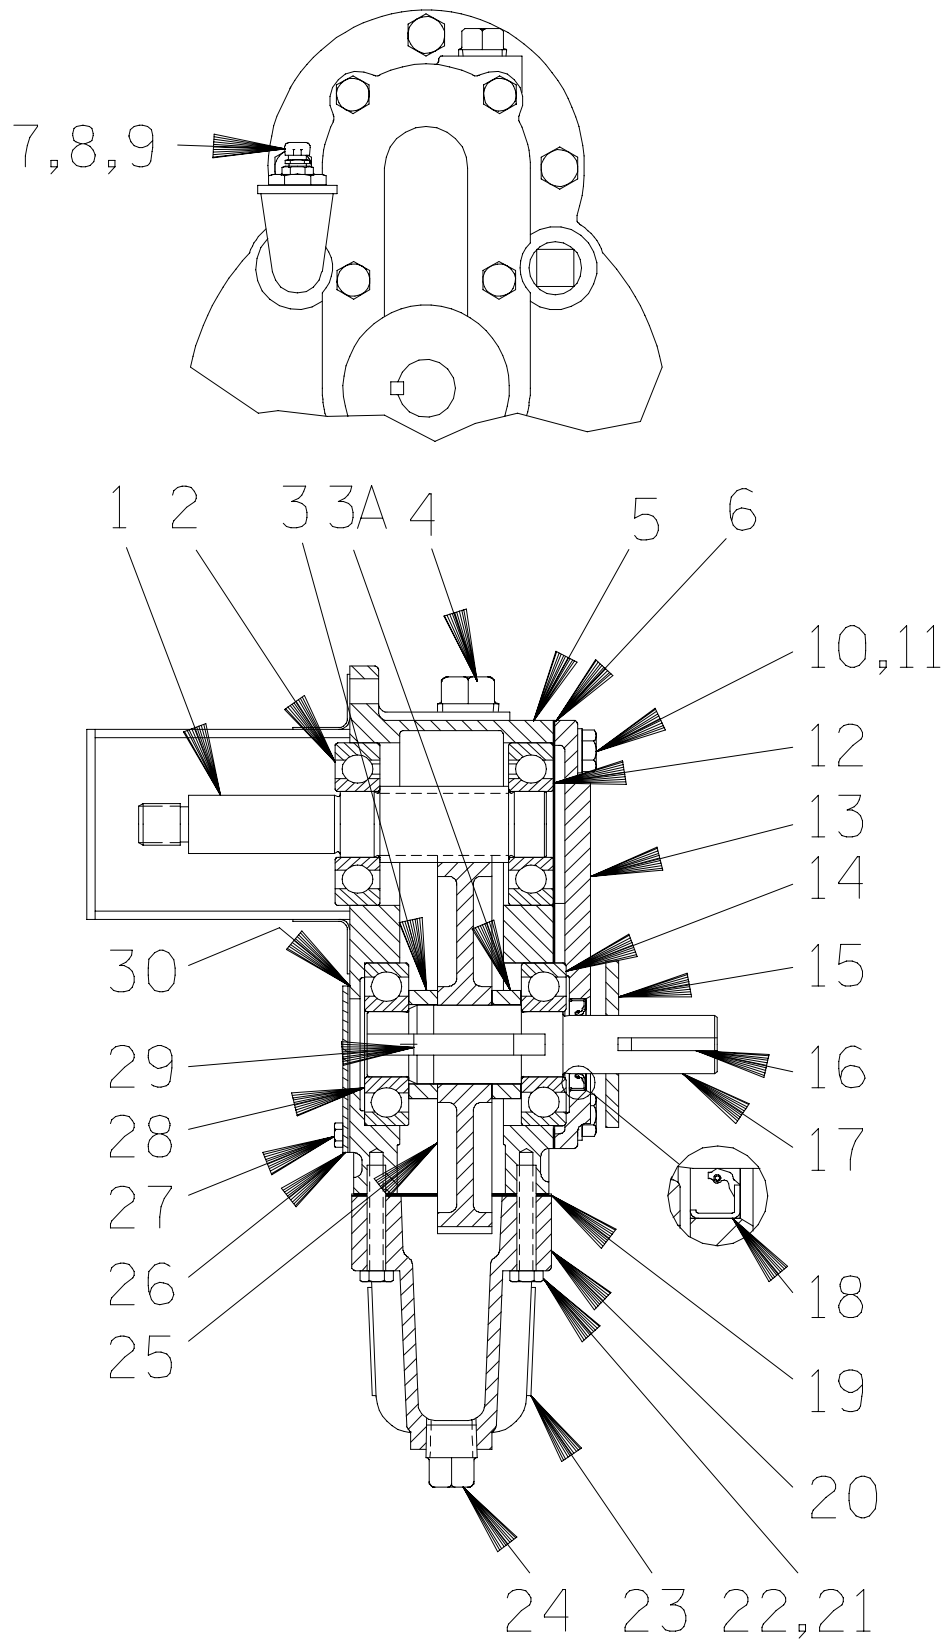
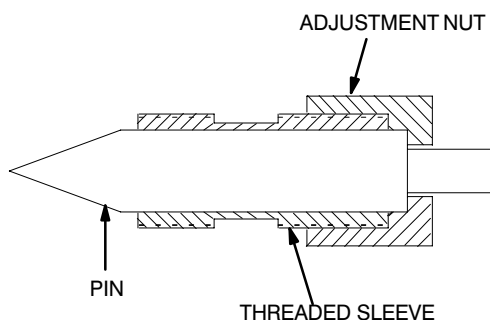

Figure 2. 44161-020 Gear Box Assembly
Figure 3. 48781-002 Gear Jam Tool
To remove the impeller, see Figure 2 and remove one of the pipe plugs (4) located in the gearbox. Screw the threaded sleeve on the gear jam tool (P/N 48781-002, Figure 3) into the pipe plug hole. Slide the pin through the sleeve until the beveled end of the pin engages the teeth of the drive gear (25). Screw the adjustment nut onto the sleeve until the pin firmly engages the teeth of the drive gear and jams rotation. Check to ensure that the pinion shaft (1) will not turn.
See Figure 2 and remove the drive shaft key (16) and slinger ring (15) from the drive shaft (17). Remove the lower most drain plug (24) and drain the gearbox lubricant. Clean and reinstall the drain plug. Disengage the hardware (10 and 11) and remove the bearing cover (13), oil seal (18), and gasket (6) from the gearbox housing (5).
*See Figure 1 and remove the hardware (7 and 8) securing the pump casing (1) to the gearbox. Use a 1-inch diameter brass rod (or wooden dowel) and a hammer to tap the shaft and assembled pump parts from the gearbox. **Be careful** not to damage the outboard pinion shaft bearing (12, Figure 2)*
If the pump casing, oil seal (4) or gearbox assembly (9) requires replacement, the casing must be separated from the gearbox housing (5, Figure 2).